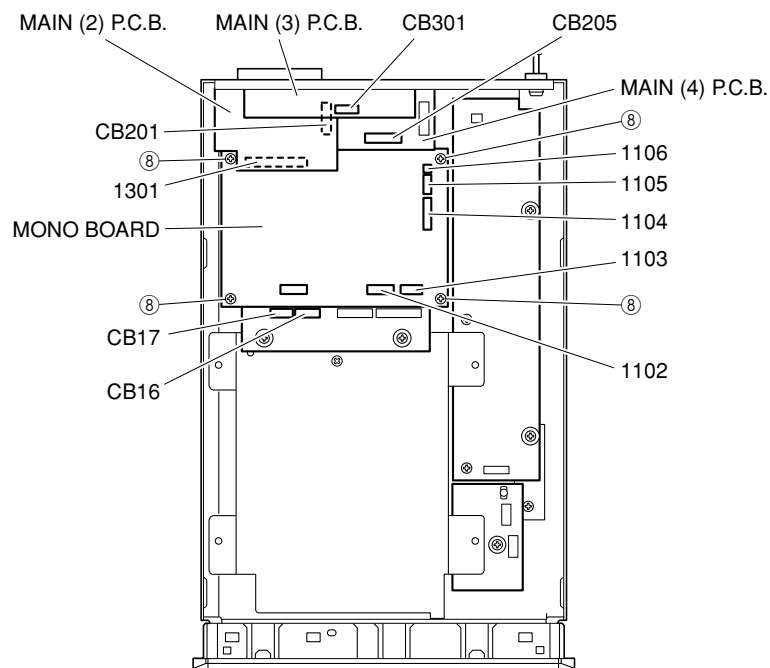
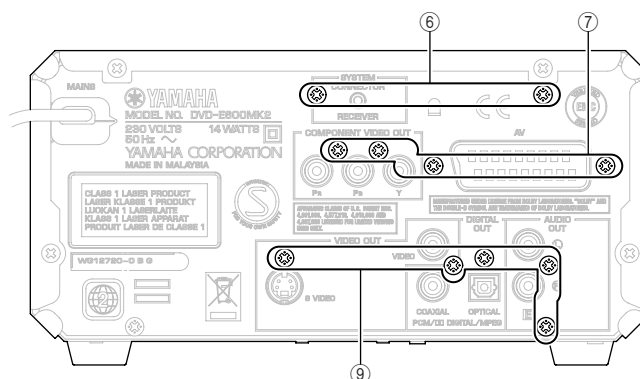

Fig. 3
Fig. 4
- Remove a connectors (CB16, CB17). (Fig. 3)
**4. Removal of MAIN (3) P.C.B.**
- Remove 2 screws (⑥). (Fig. 4)
- Remove a connector (CB301). (Fig. 3)
- Remove the MAIN (3) P.C.B..
- Remove 4 screws (⑧). (Fig. 3)
- Remove a connectors (1102~1106, 1301). (Fig. 3)
**5. Removal of MAIN (2) and MAIN (4) P.C.B.**
- Remove 4 screws (⑦). (Fig. 4)
- Remove a connector (CB205). (Fig. 3)
- Remove the MAIN (2) and MAIN (4) P.C.B..
- Remove 5 screws (9). (Fig. 4)